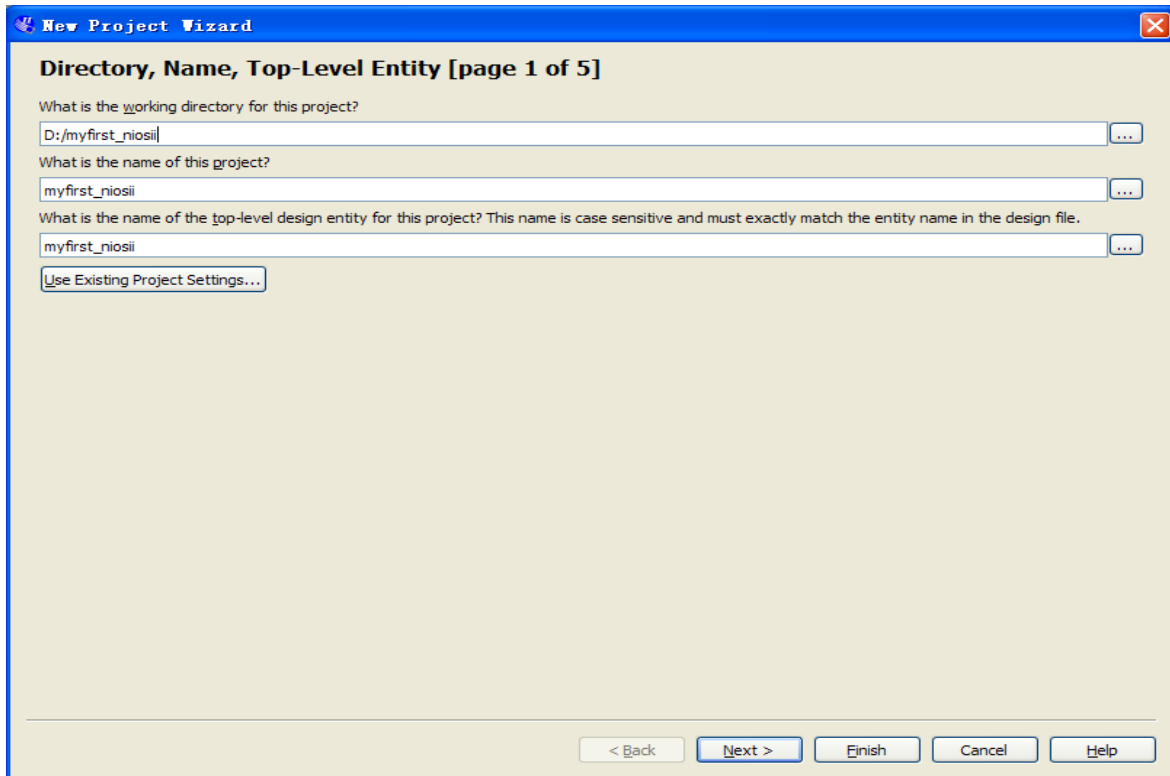
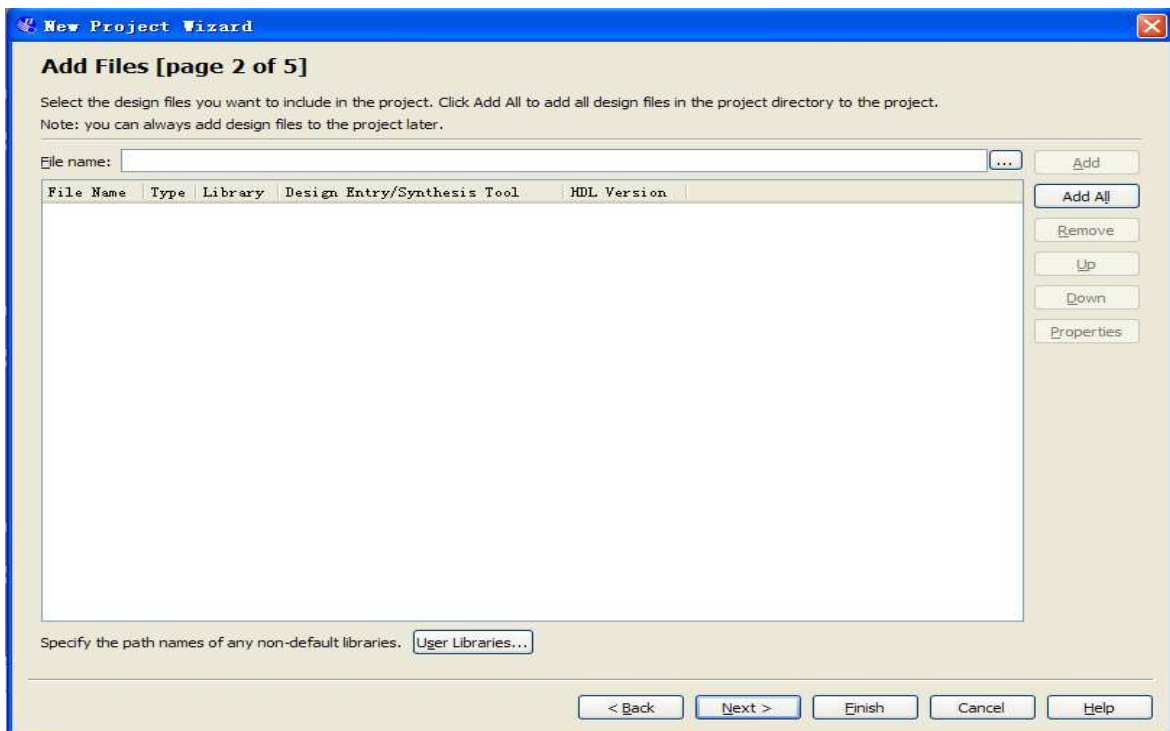

Figure 7-3 Input the working directory, the name of project, top-level design entity
Figure 7-4 New Project Wizard: Add Files [page 2 of 5]
2. Select a working directory for this project, type project name and top-level entity name as shown in **Figure 7-3**. Then click **Next**, you will see a window as shown in **Figure 7-4**.